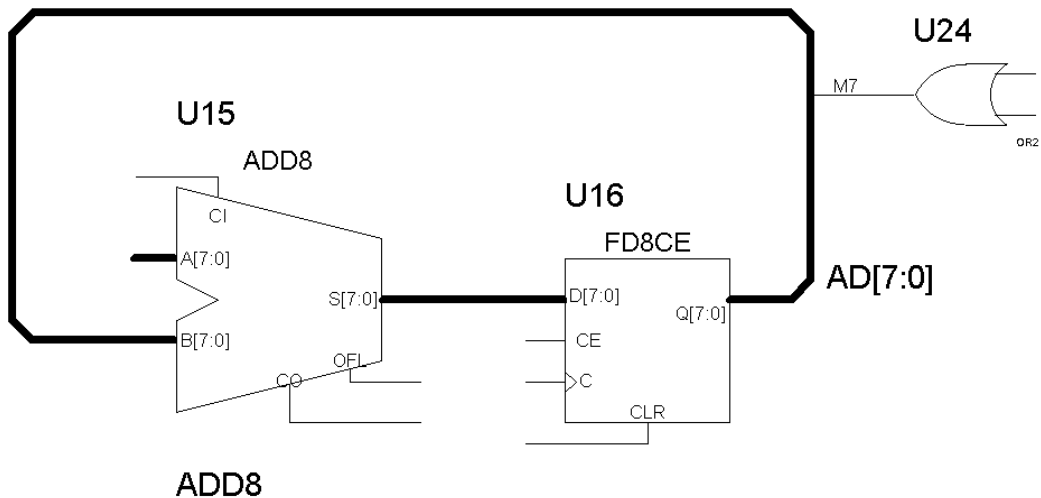

Figure 3-13. Simple Bus With Connects Bus Pins.
4. You should end up with the schematic similar to Figure 3-13